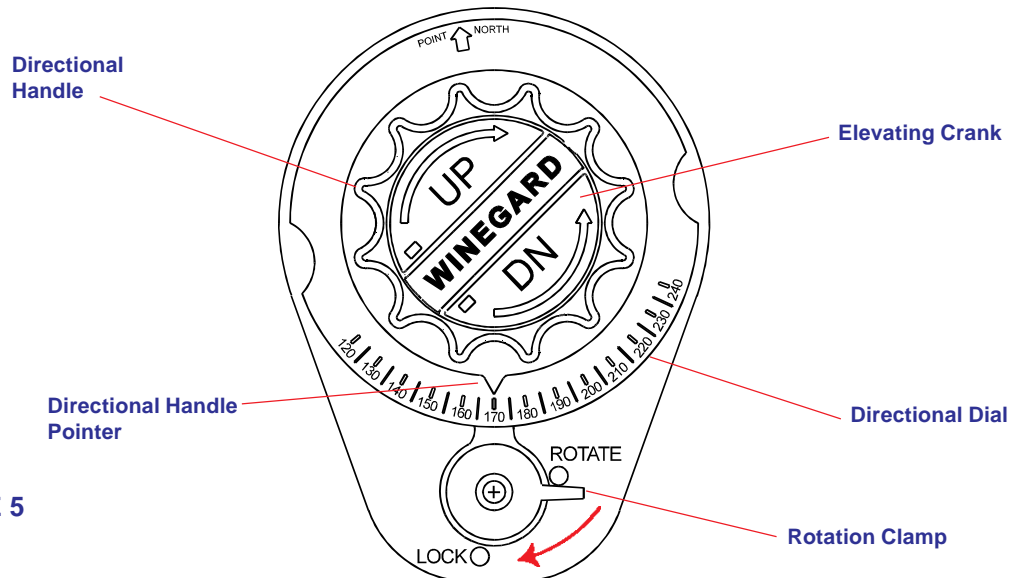

FIGURE 5
STEP 9. Assemble ceiling plate, directional handle and crank handle as shown in Figure 5. The circled numbers indicate placement from the ceiling down. **Example:** The ceiling plate ① is located next to the ceiling. The elevation crank handle ⑧ is farthest from the ceiling. The number also indicates sequence of assembly.
STEP 3. Turn directional dial (see Figure 5) until the arrow is pointing North.